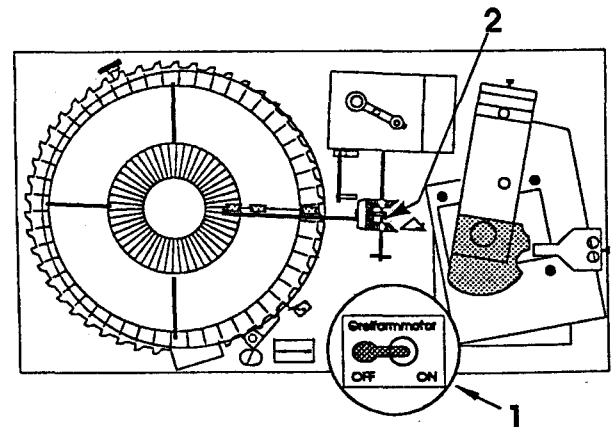

Fig. 11
- Place a CD on turntable again but interrupt gear motor by using gear switch (Fig. 11, Pos. 1) when gripper arm hits stop bracket.
- Switch gear service switch to ON again and stop gear motor short before gripper arm releases the CD (Fig. 11, Pos. 1)
- Set gear switch (Fig. 11, Pos. 1) to ON gear motor runs to play position.
- Undo the protection plate at the nut of the gripper arm shaft between the two bevel wheels (Fig. 11, Pos. 2).
- Start movement of gripper arm by pressing button 7. If the gripper arm starts to rotate stop the gear with the gear switch (Fig. 11, Pos. 1). The cam of the bevel wheel in front must touch the adjustment screw. At this point switch off the gear motor.